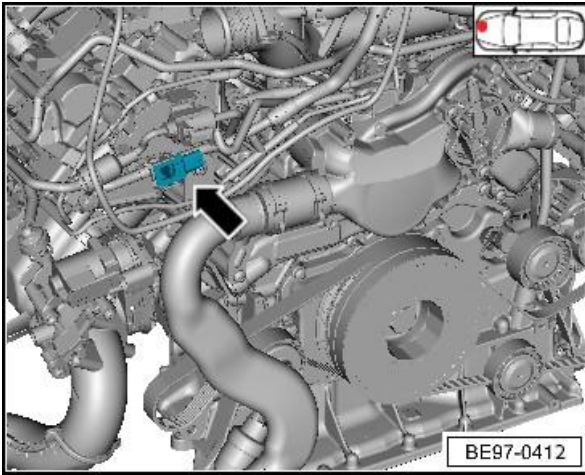

Figure 2
- Referring to Figure 2 - Locate the Pressure sensor connector (T3dd) for the activated charcoal filter system (G804)